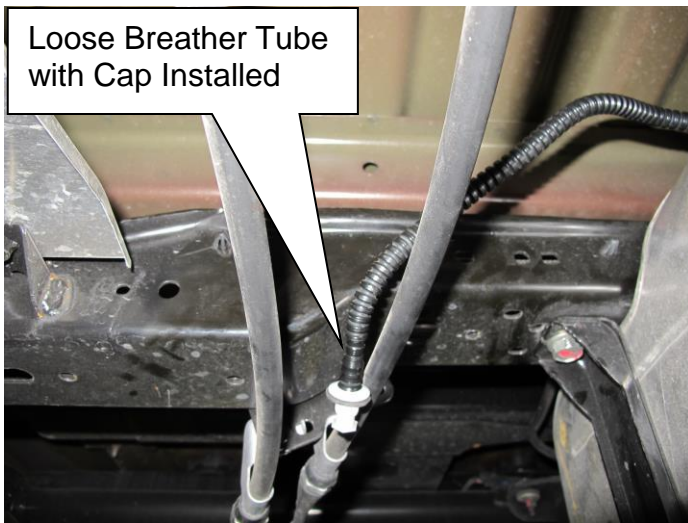

Figure 3
- Figure 3 shows the breather tube present, but not installed in the bed rail.
- If **NO**, then continue to HOLD the vehicle. **Do not submit warranty claim.** E-mail clear pictures of the bed rail area, as shown in Figures 3 or 4, showing a loose or missing fuel tank breather tube to: